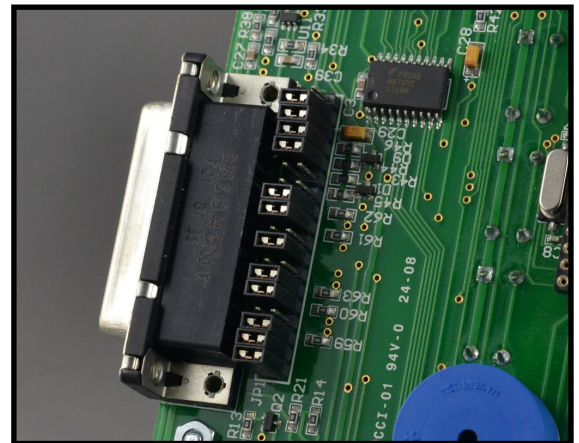

Figure 6b. DB-25 connected through bottom side of the board.
- With the jumpers installed and soldered carefully insert the DB-25 connector on the bottom side (Figure 6b.) of the board making sure all pins go through the holes.